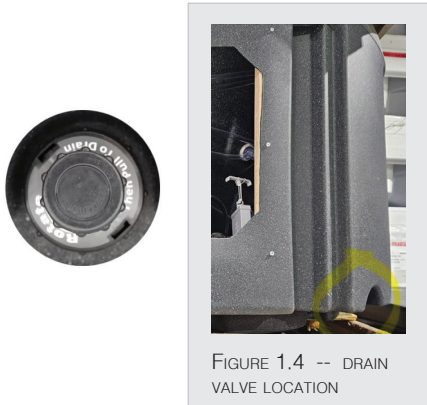

FIGURE 1.4 -- DRAIN VALVE LOCATION
You should drain and refill your spa every one (1) to three (3) months depending on your usage. You should also replace the filter cartridge and wipe down the spa periodically. Consult Cloud 9 Spas for recommendations. The drain valve is located near the bottom corner of your spa (see fig. 1.4).